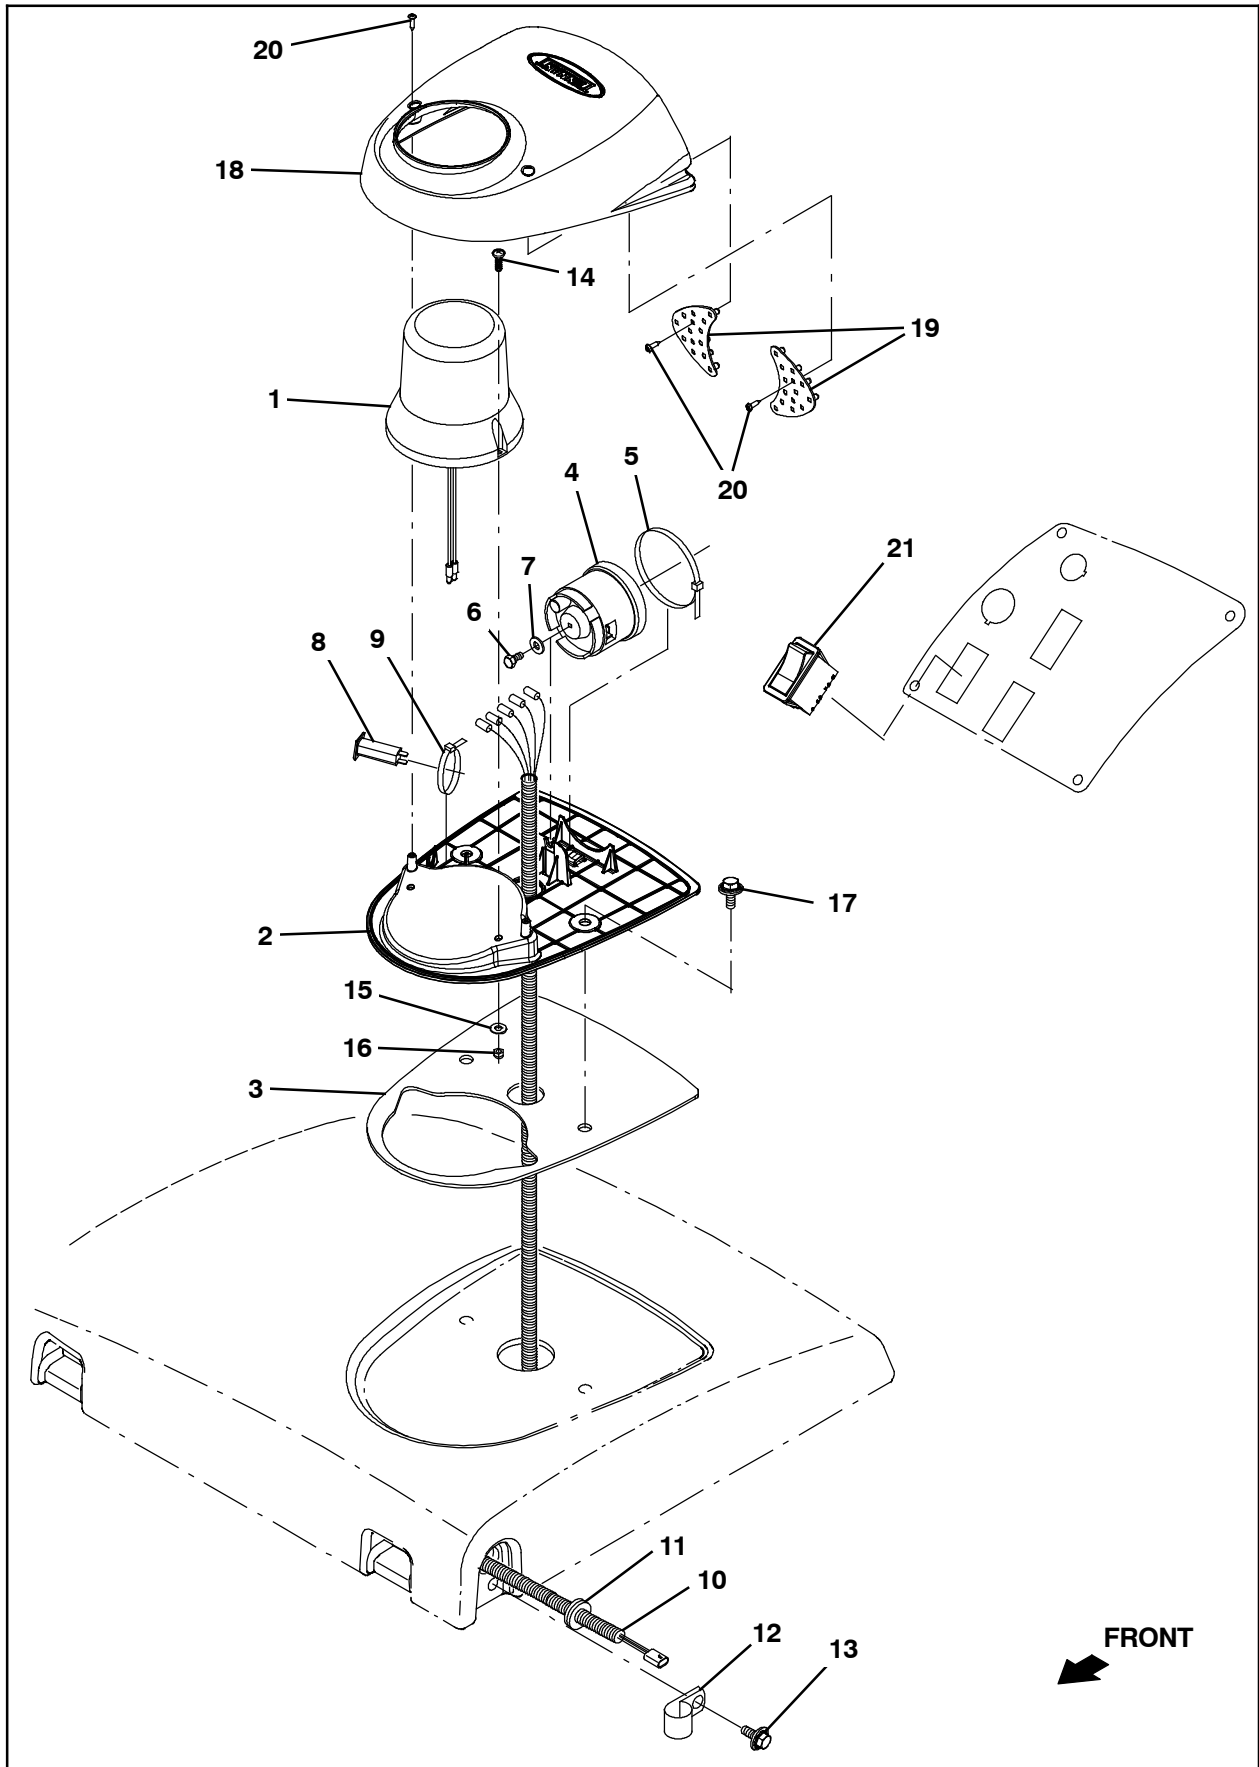

FIG. 17
17. Use two pan screws (20) to install the light module cover (18) onto the rest of the light / alarm assembly. (Fig. 17)